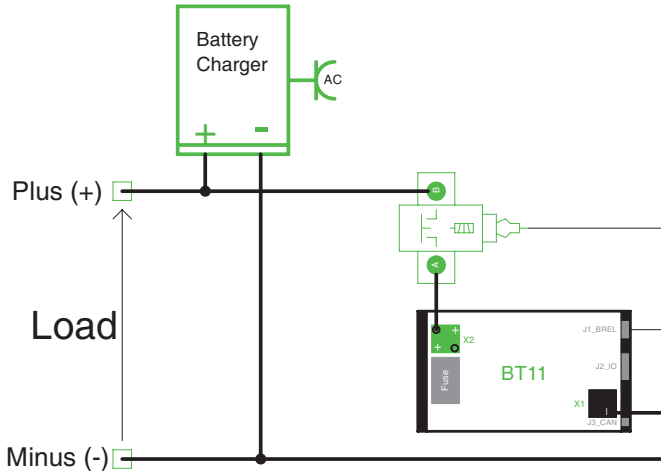

Figure 10. Connecting the charger
1. Connect the charger behind the Battery Disconnect device as displayed in Figure 10.